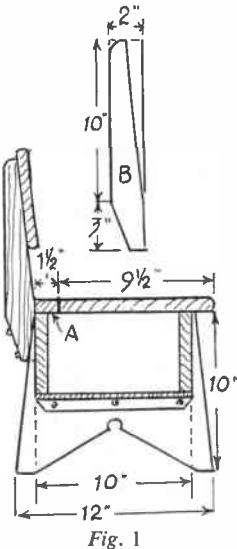
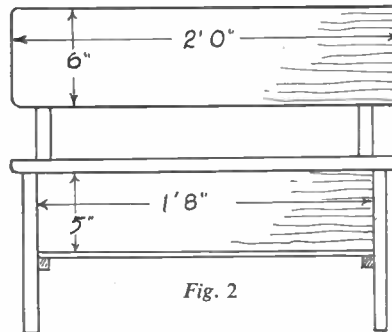

Fig. 1
Fig. 2
A section through the side of the seat is given in Fig. 1, and a front elevation in Fig. 2. The work of construction is quite easy, and for material, a good
quality deal of  $\frac{3}{4}$  in. thickness is suggested. The article must be strong enough to stand up to the treatment usually expected from a couple of lively youngsters. The shape of the ends can be obtained from Fig. 1. Owing to the width here, it may be necessary to glue two boards together, and if so, a dowelled joint is advised for strength. Cut both ends and pencil on them the exact position of the two box sides which join the ends together.
Fig. 2, and either nail or screw to the ends. Position them correctly, to ensure that the seat stands firm and level. A bottom of stout plywood is nailed to the sides underneath, and at each end, a fillet of wood,  $\frac{3}{4}$  in. square is nailed for support. These fillets can be seen in Fig. 1. At this stage thoroughly glasspaper the work.
The seat itself is in two parts, a wide board which is the lid of the box, and a narrow strip to which the lid is hinged. The latter, shown at (A) Fig. 1, is firmly screwed or nailed to the rear side
of the box, its back edge being level with the box side. The lid, cut to the same length is fitted to strip (A) with a pair of 3 in. iron butt hinges. It will be seen from Fig. 2 that both are cut to a length of 2ft., and will project over the ends and front of the box. These projecting edges should be rounded with a plane and glasspaper.
The back rest is a length of wood, nailed to supports as in the drawings. Cut the two supports to the shape shown at (B) in Fig. 1, from pieces of wood 2ins. wide and 13ins. long. As the drawing shows, they are quite easy to cut. Fix these with stout round-headed screws to the rear side of the box with the sloping front edges level with the seat. Screw the back rest across these at a suitable height above the seat. Now carefully glasspaper until the wood is smooth everywhere. It is important that all possibility of splinters or roughness should be avoided.